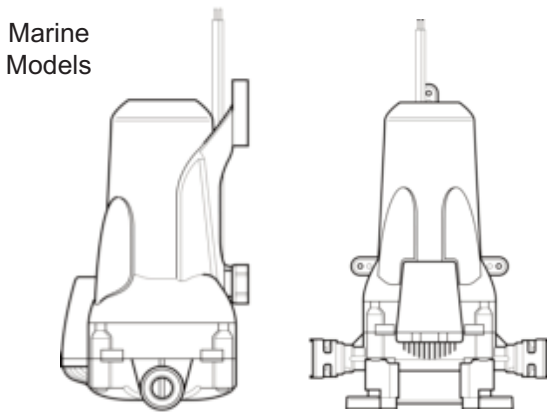

Fig 2 - Recommended Pump Mounting Orientation
- Step 3** In a marine application, the pump can be mounted horizontally or vertically. In a RV/caravan application the pump **must** be mounted vertically. We recommend that the pump head is mounted below motor level (Figure 2). For advice on your specific installation, please contact Whale® support.